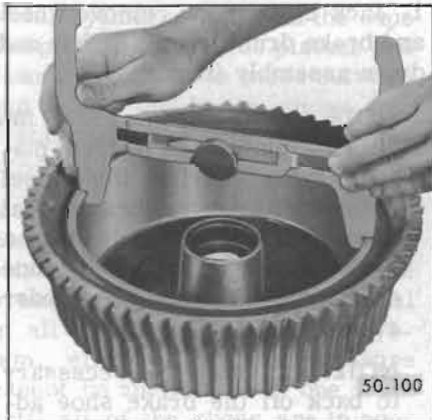

Figure 50-18—Measure Brake Drum I. D.
10. Measure brake drum I.D. using inside caliper portion of Tool J-21177. Adjust brake shoes to dimension obtained, on outside caliper portion of Tool J-21177. See Figures 50-18 and 19.